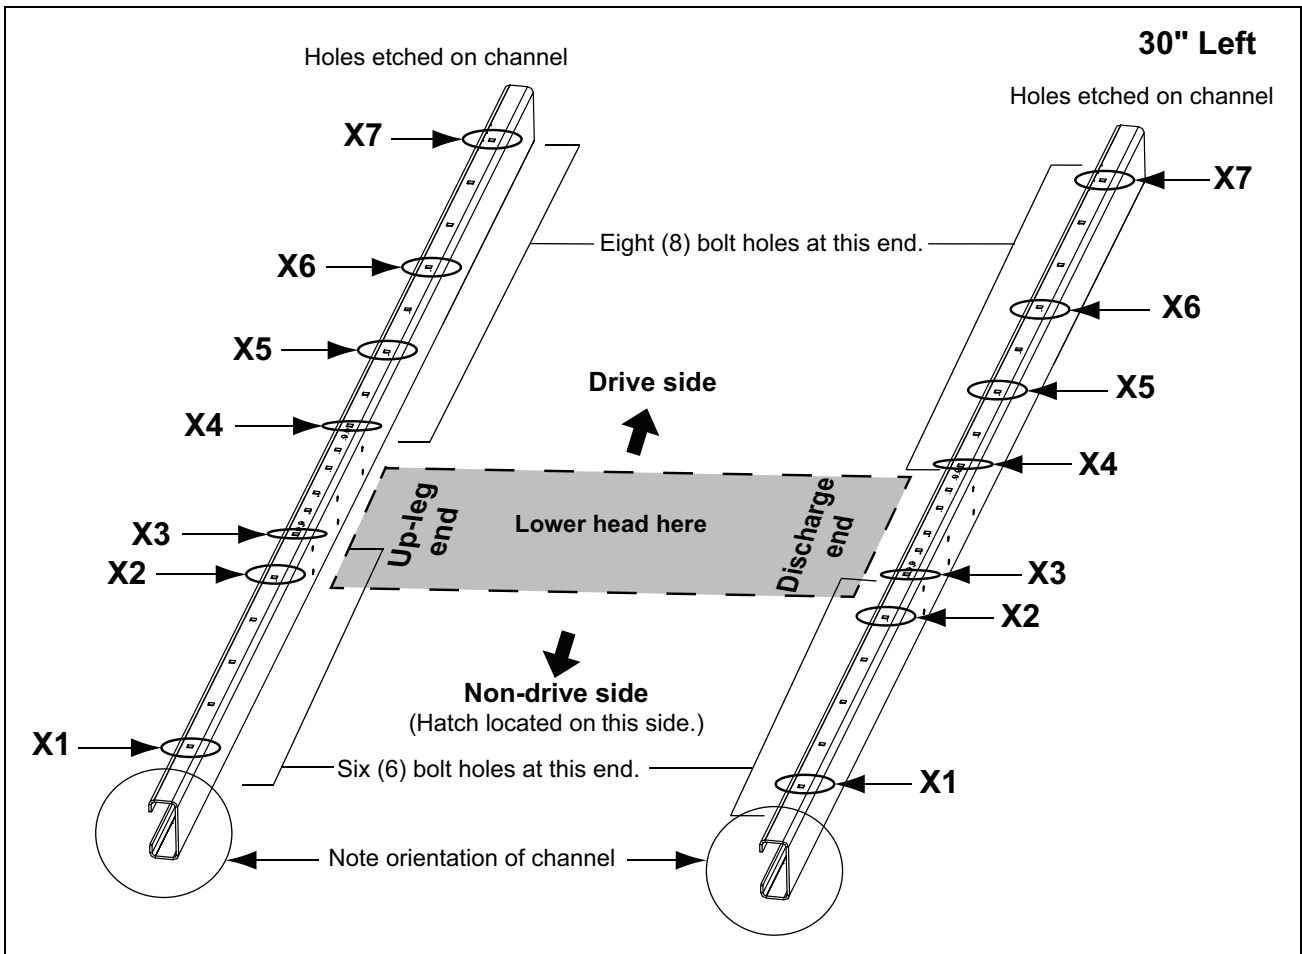
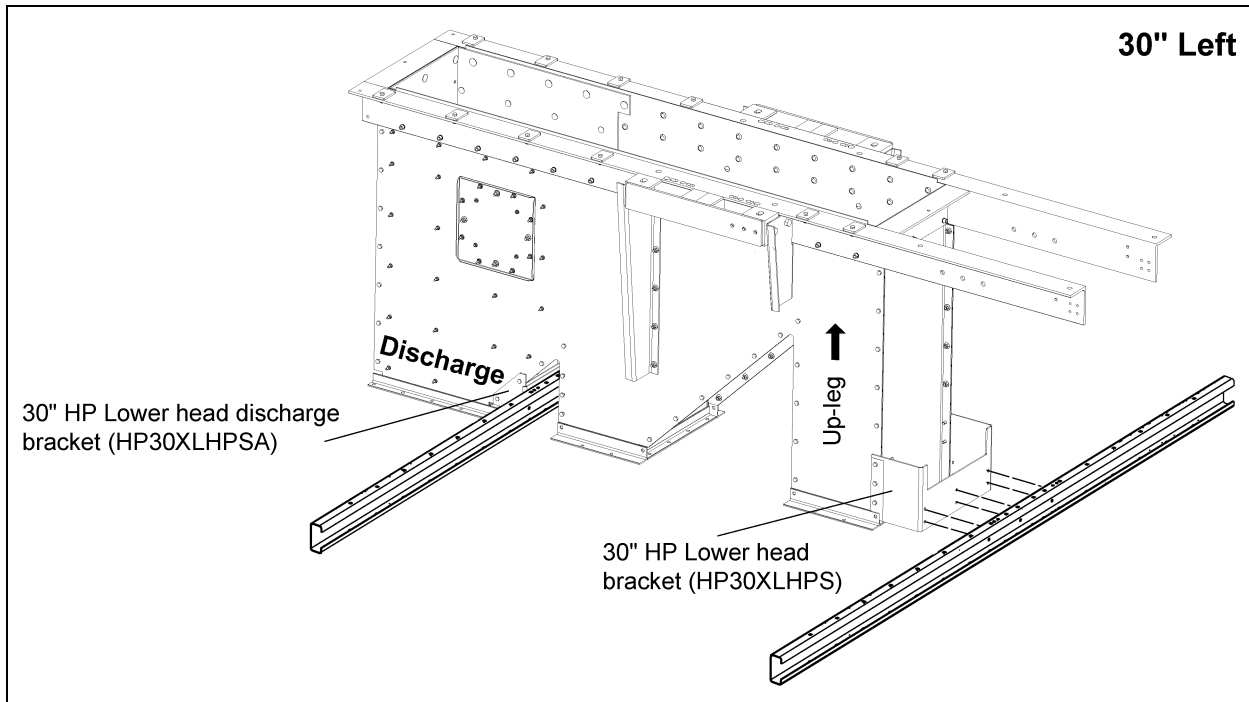

Figure 9B 30" Left Side Drive Channel Position
Figure 9C 30" Left Drive - Cross Deck Support Channels to Lower Head Brackets
(See Figure 9B on Page 67.)
3. Attach cross deck support channels (HP36CDSCX) to the top-most set of holes of the lower head brackets (HSP36130) using 3/8" x 1" bolts and nuts. *(See Figure 9C on Page 67.)*
***NOTE:** *The channels MUST be oriented as shown in Figure 9B and Figure 9C on Page 67 in order for the decking and subsequent assembly to be done correctly.*